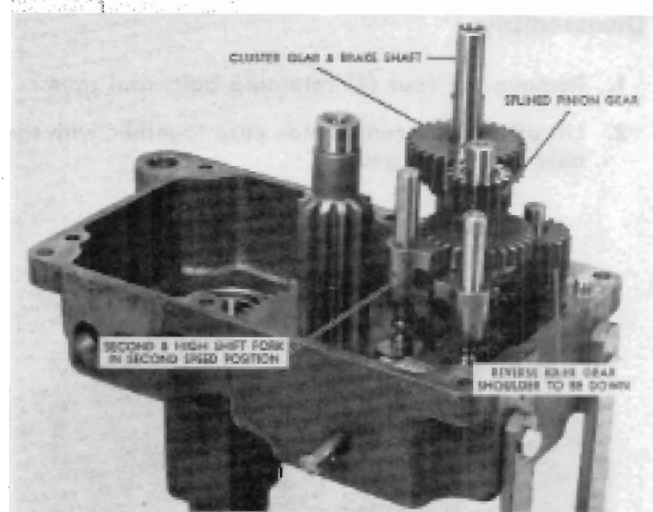

FIGURE 18
17. Install the cluster gear and brake shaft assembly. See Figure 18.